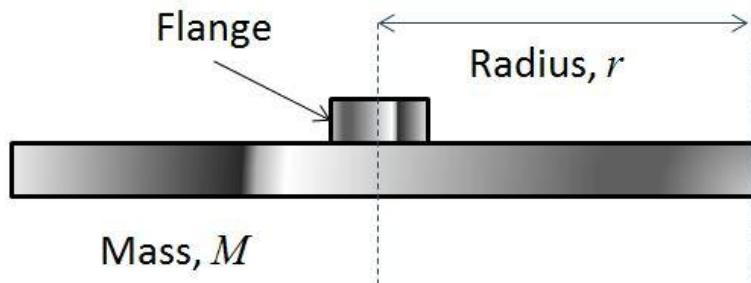

Figure 5 A solid disc flywheel
- A solid disk flywheel (Figure 5):